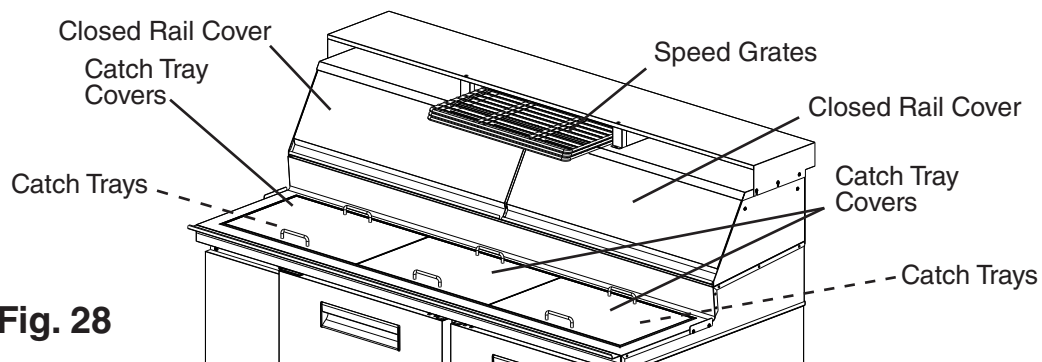

Fig. 28
- d) **Night Mode Operation: Both Left and Right Rail Covers Closed;** With both the left and right rail covers closed, the rail night mode starts. Place catch tray covers over catch trays and place the speed grates in the holding area above the rail. See Fig. 28. **WARNING! To prevent day mode from engaging during night mode operation, make sure both of the rail covers (left and right) are closed.**
Note: Both rail covers must be closed to view the rail night mode temperature. See Fig. 28.